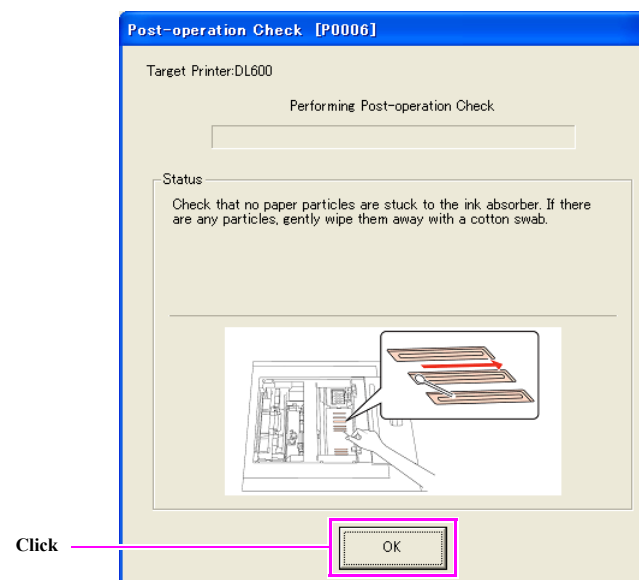

Figure 3-69. Manual Check Screen
3. The Manual Check screen appears.(See Figure 3-69)